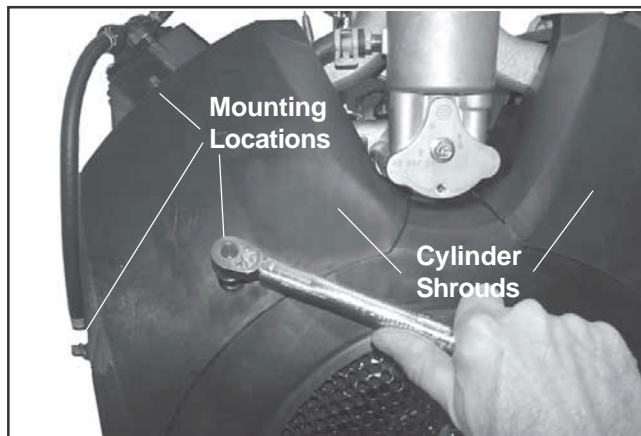

Figure 10-108. Installing Cylinder Shrouds.
3. Install the two cylinder shrouds and secure with the shoulder screws. Torque the screws to 4.0 N·m (35 in. lb.) for initial installations, or 2.0 N·m (17.7 in. lb.) for reinstallations. See Figure 10-108.